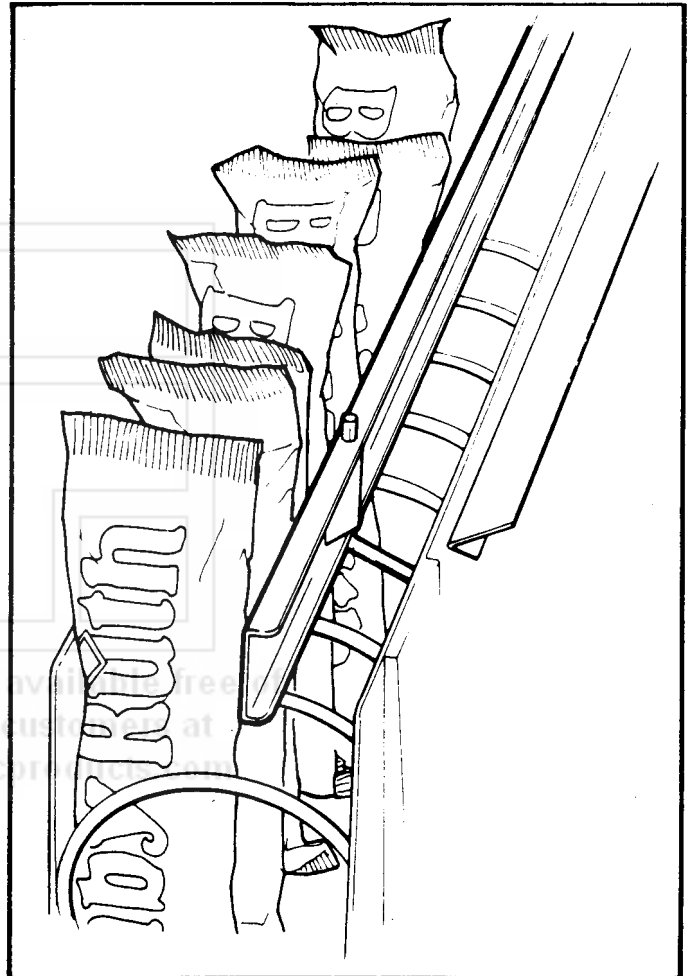

Figure 6. **10 SELECTION SHELF PRODUCT SPACER POSITIONED TO HOLD CANDY UPRIGHT.**
8. **PRODUCT SPACERS—10 SELECTION SHELF:** The 10-selection shelves are equipped with a product spacer (see Figure 6) that can be pivoted from the right side of each product space. These spacers should be pivoted out to hold the product upright, but not tight against the product. Leave about $\frac{1}{8}$ " clearance between the spacer and the product.